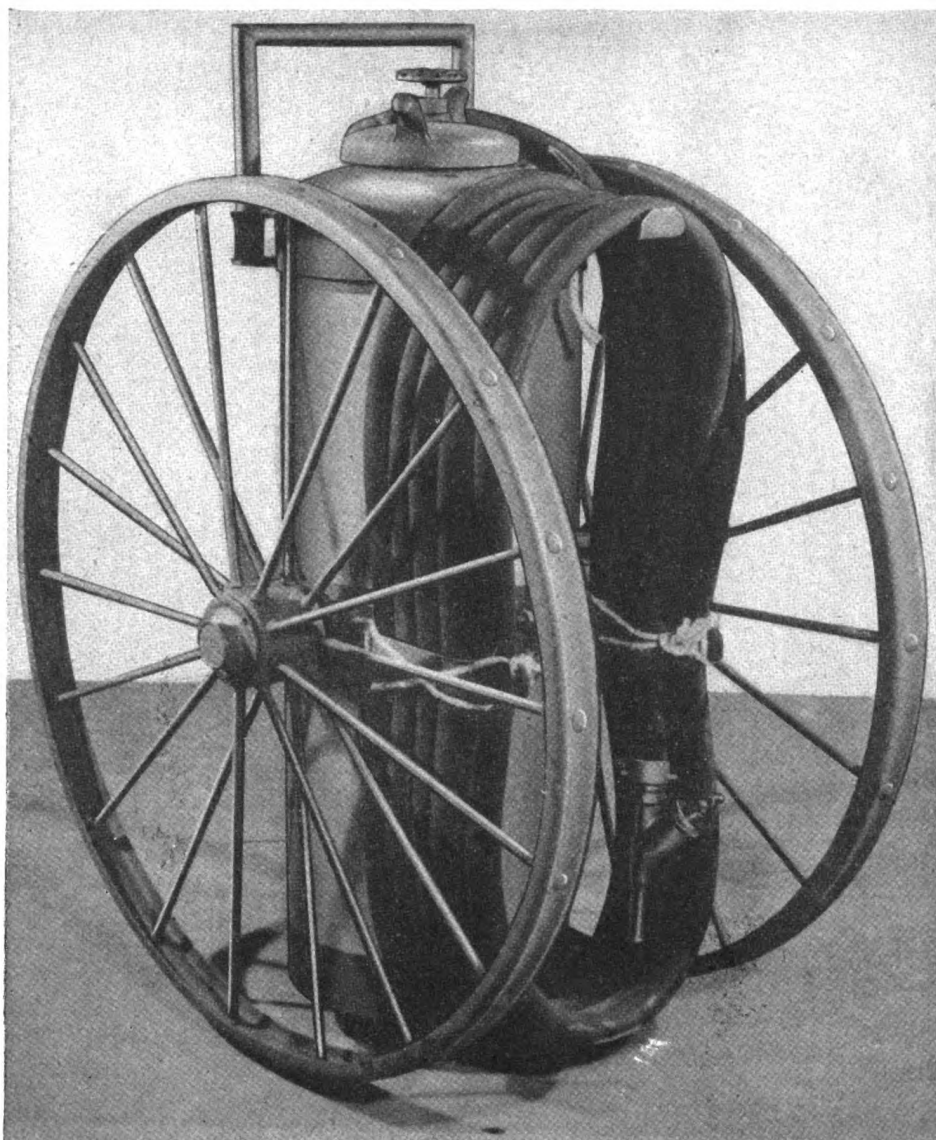

Figure 22. Narrow-tread hand-drawn foam engine, 40-gallon capacity.
d. 40-GALLON HAND-DRAWN FOAM CHEMICAL ENGINE. The 40-gallon hand-drawn foam chemical engine (figs. 22 and 23) operates the same as the